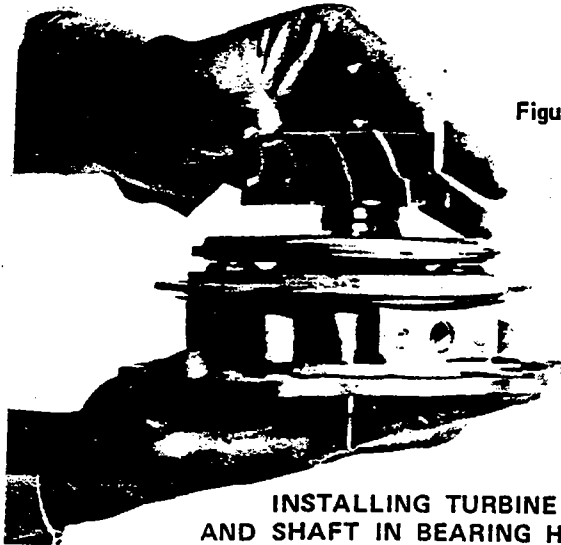

Figure 19
G. Check that the mating ring is centered in the bearing housing and insert the turbine shaft into the assembled housing. Make sure the turbine shaft seal ring is evenly centered in the shaft groove as shown in Fig. 19. With a slight rotation push the shaft into the housing to compress the ring. A plastic ring suppressor TCI-39, may be used if difficulty is encountered.
H. Hold the turbine wheel and shaft in place and invert the bearing housing assembly, taking care to prevent the shaft from falling out of the housing. Install the shaft sleeve and the thickness of shims determined in Step D (3) above as shown in Fig. 19.